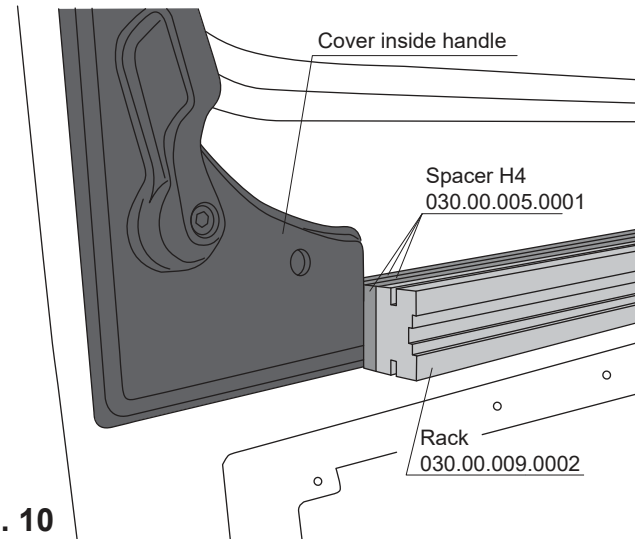

Fig. 10
1. 1090 mm (up to the cover of the inside handle, Fig. 10 and 11)
The lower edge of the rack should be in line with the lower edge of the inside handle, see Fig. 10.